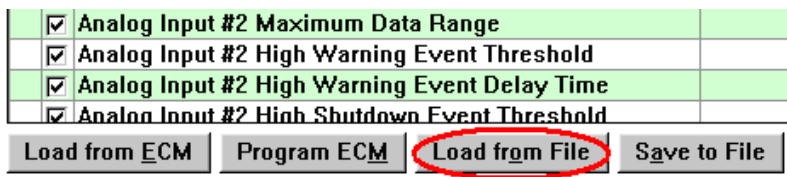

Figure 17.8 – Load ECM Replacement File
8. If another replacement file is to be programmed or if the user is already at the ECM Replacement screen prior to opening a replacement file, press the "Load from File" button at the bottom of the screen and follow steps 3 through 7 above. See Figure 17.8.